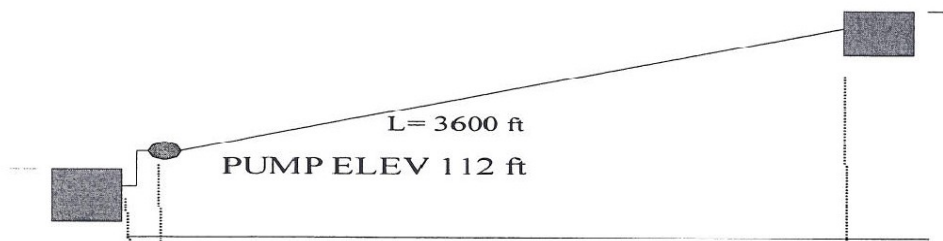

Figure 3.
3. a) Determine the operating point and efficiency for two pumps operating in parallel as shown in Figure 3 for the pump curve in Figure 4.